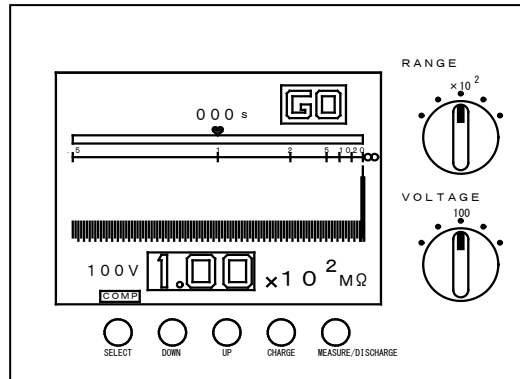

Fig. 6.6.2
- 8) Using the **UP** and/or **DOWN** switches, set the judgment level to **1.00** $\times 10^2 M\Omega$. (Fig. 6.6.2)